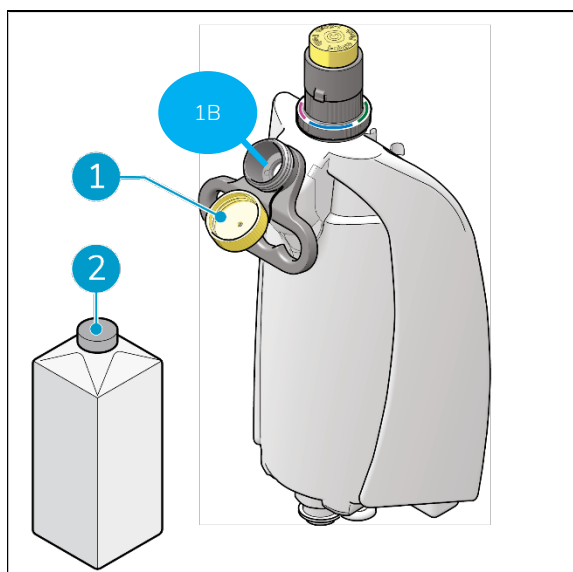

Figure 18
1. Remove the yellow cap (Figure 18, pos. 1).
2. Take out the filling hose at pos. 1B
3. Pour in a maximum of 1 gal / 4 L of water (Figure 18, pos. 2).
4. Put back the yellow cap (Figure 18, pos. 1) and make sure it seals tightly
9. Press the i-dose injector button (Figure 18, pos. 5) to dispense the contents of the i-dose pod.
10. Turn the indicator ring so that the color corresponding to the i-dose pod is facing towards you (Figure 18, pos. 3).